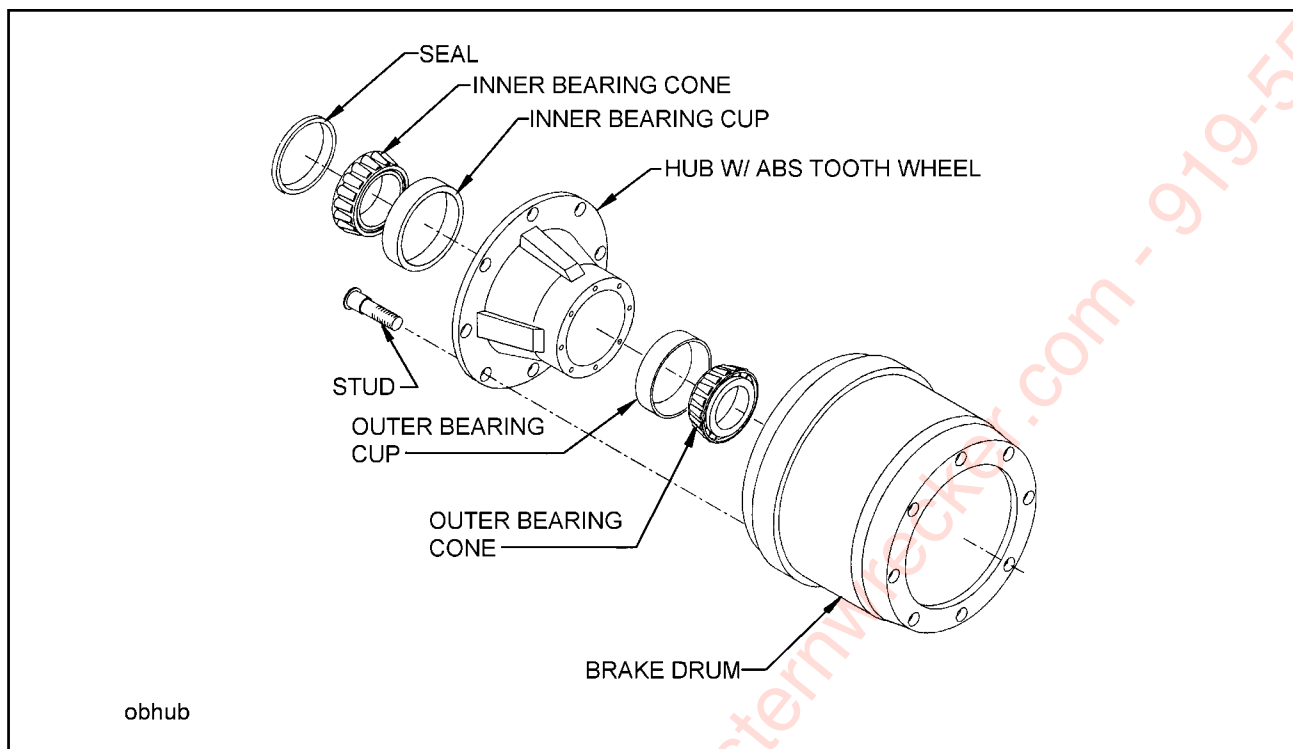

Figure 4-15 Outboard Mount Hub and Drum
4-9.4 Replace the hub and drum as follows (**See Figure 4-15**):
- a. Remove the brake drum (**See Figure 4-15**). It may be necessary to release the slack adjuster.
- i. Place the drum over the hub and brake shoes being careful not to damage the threads on the studs (**See Figure 4-15**). Make sure the drum seats flat against the hub flange and mates properly with the hub pilot. There should be no interference between the brake drum pilot chamfer and the corner radius on the hub. If interference exists, the hub will not be able to function properly.